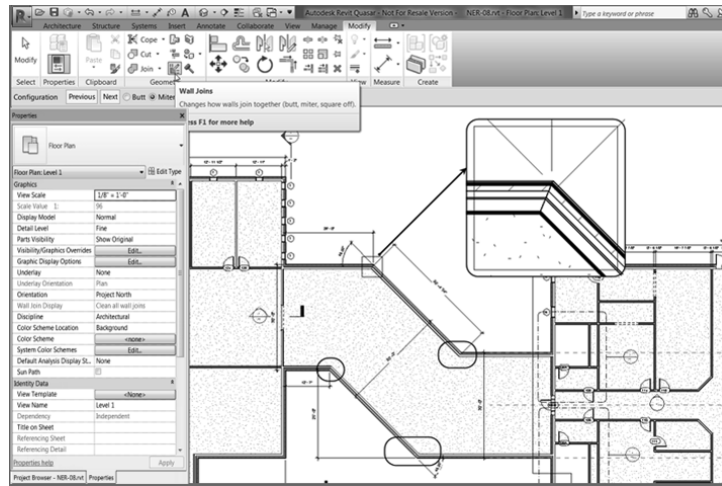

FIGURE 7.31: Modifying the walls' corners
2. Zoom into the wall intersection, as shown in Figure 7.31.
3. On the Modify tab, click the Wall Joins button (see Figure 7.31).